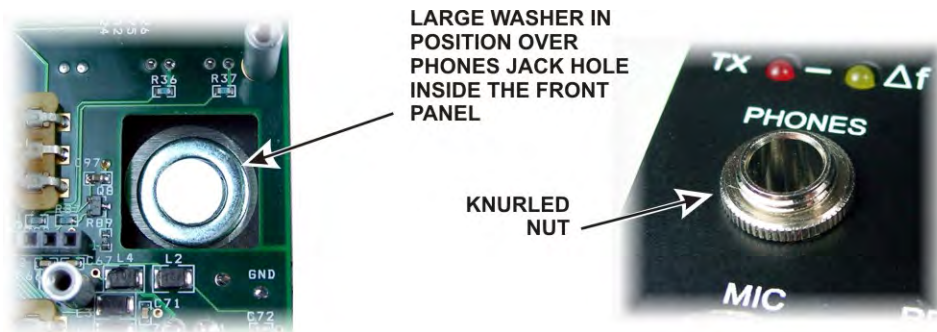

Figure 59. Phones Jack Hardware.
- Position the large flat washer on the inside of the front panel over the PHONES jack hole (see Figure 59 on page 41). This is easily done by sliding the washer into place from the end of the front panel.
Screw the knurled nut onto the threaded shaft of the PHONES jack where it exits the front panel (see Figure 59). Screw it only finger tight. Do not use pliers.